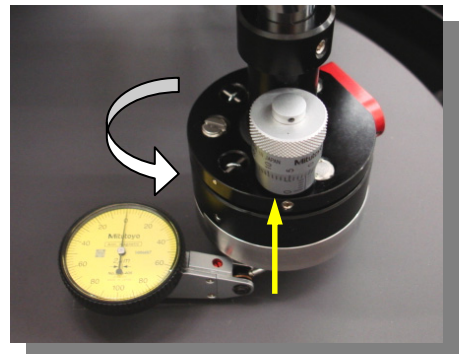

Figure 26: The indicator tip is aligned directly under second micrometer head
- 8) Activate full rotation and stop it when the indicator tip is directly beneath the second micrometer head (Figure 26).